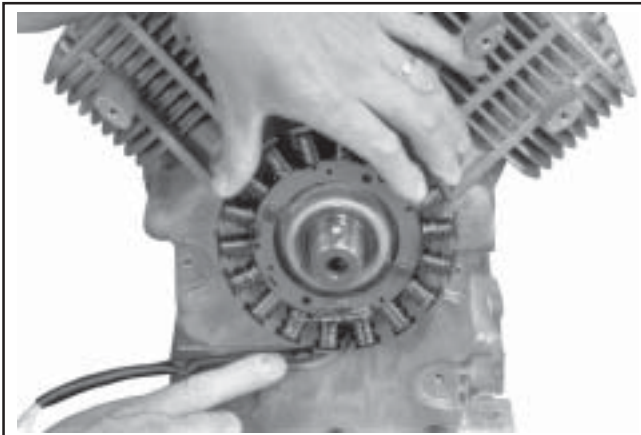

Figure 11-24. Route Stator Leads in Groove.
4. Route the stator leads in the crankcase channel, then install the backing plates and the stator wire bracket (if used). Secure using the four hex flange screws. See Figures 11-24 and 11-25. Torque the screws to 7.3 N·m (65 in. lb.).